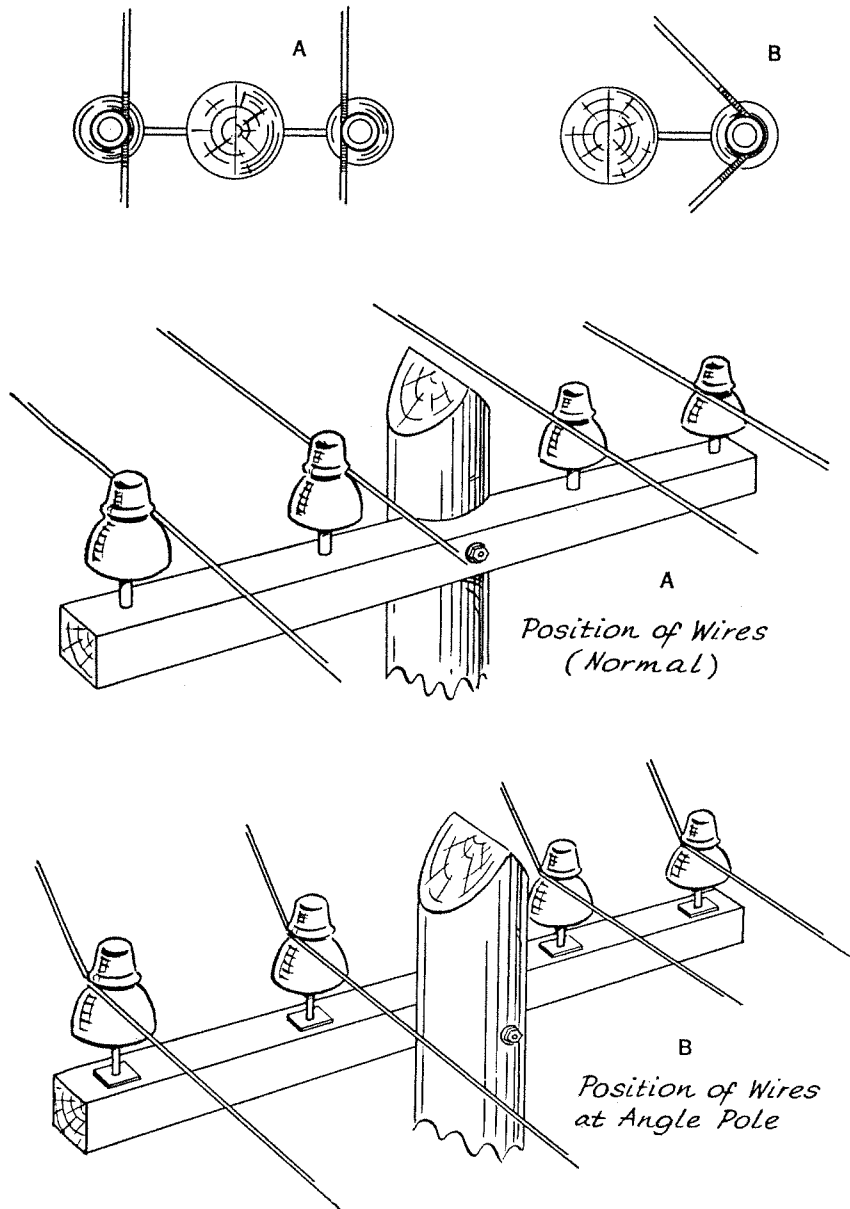

Fig. 16 (a) and (b).
58. The wire should be fastened on the "pole" side of the insulators, except where the line changes direction, and it should then be fastened so as to pull towards the insulator. (See Fig. 16.)